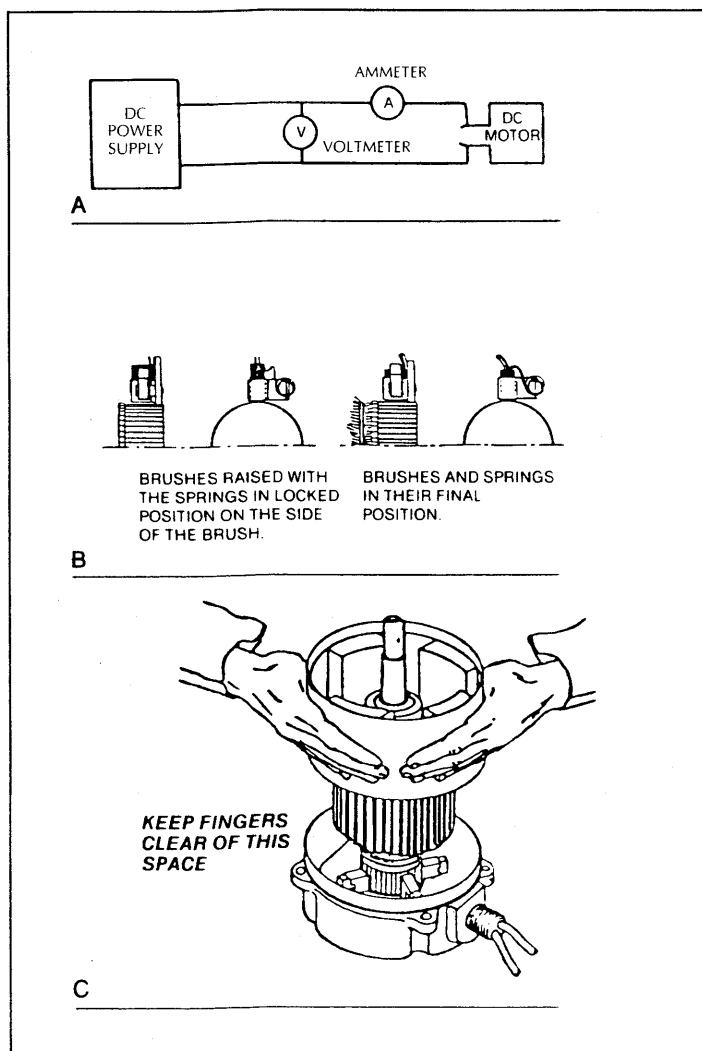

Figure 3-17: Electric Motor Service
3.13 Electric Motor (Figure 3-17)